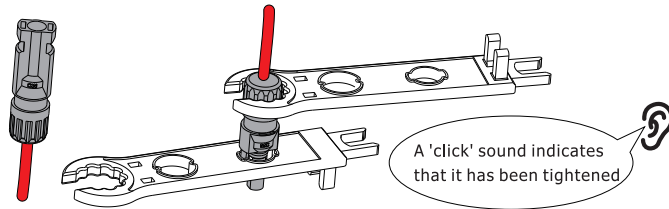

Figure 4.1-3 Connector with cap nut screwed on
**Step 3.** Insert the contact pin to the top part of the connector and completely tighten the cap nut to the top part of the connector, as shown in Figure 4.1-3.